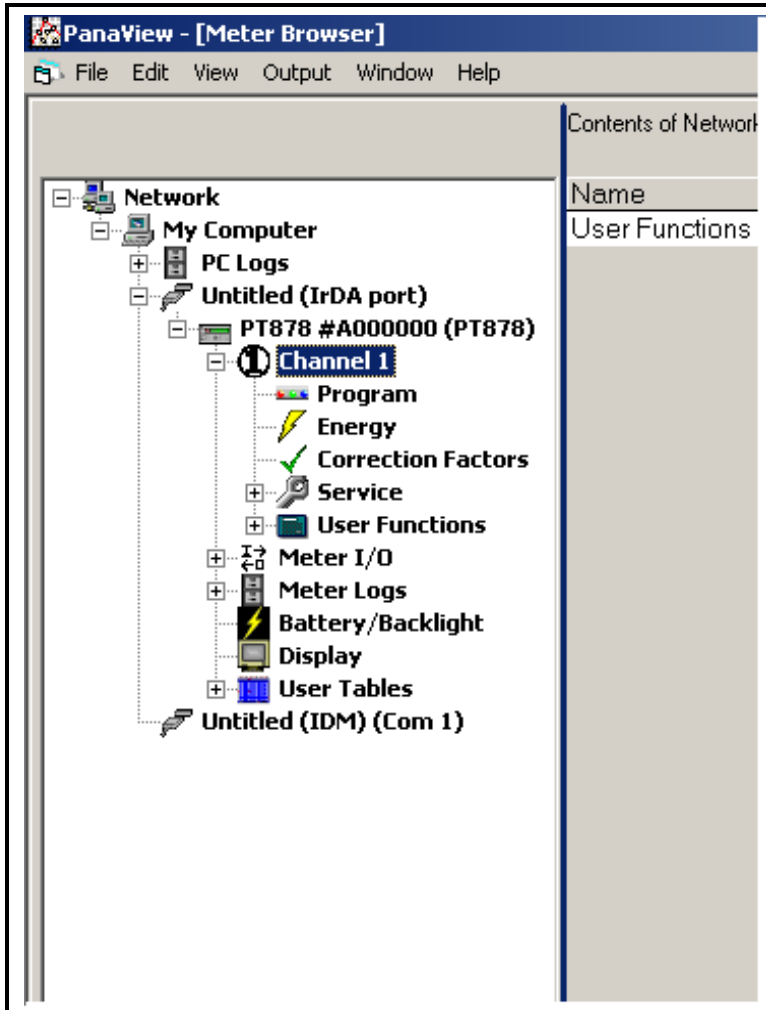
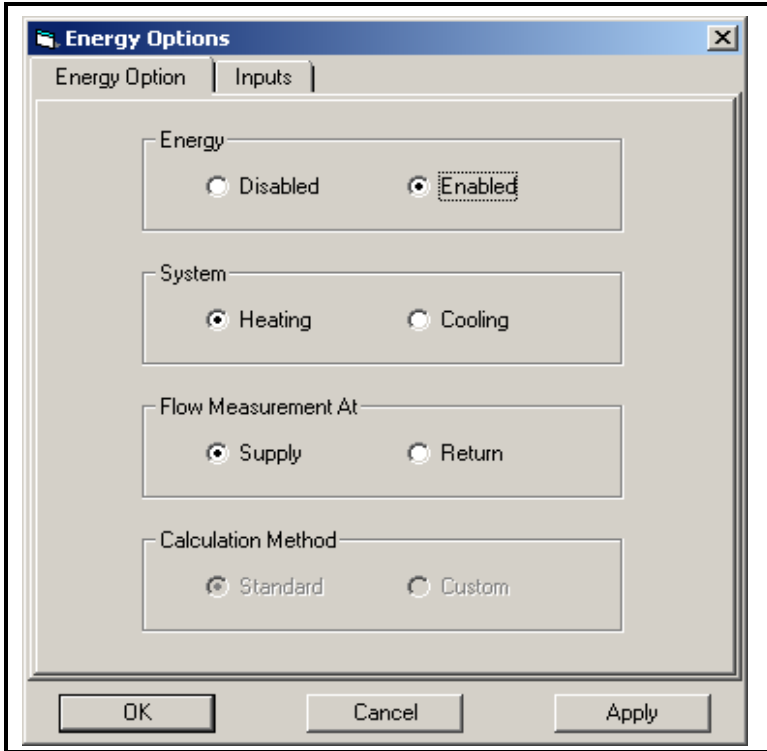

Figure 11: Meter Menu for PT878
Figure 21: The Energy Option Window
3. From the expanded tree, click on the “*Channel 1*” option. The listing appears similar to Figure 11 on the next page.
To set up energy measurement parameters, click on the “Energy” option shown in Figure 11 on page 12. The window appears similar to Figure 21 below.
To set up the PT878 input and output parameters, click on the “*Meter I/O*” option shown in Figure 11 on page 12. The tree expands to show three options, “*Analog Output*,” “*Analog Input*,” and “*Digital Output*.” These options correspond to the options in the PT878 Program menu, and are described in Chapter 3, *Programming Site Data*, of the PT878 User’s Manual. To access a particular option, double-click on the listing in the menu tree.